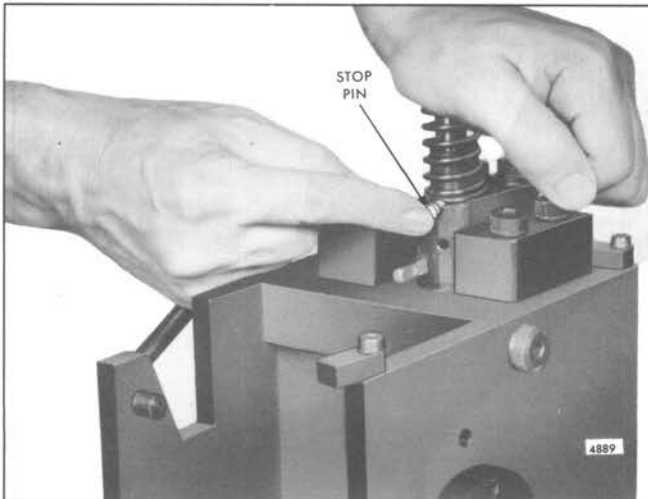

Fig. 33 – Installing Injector Follower Stop Pin
25. Refer to Fig. 33 and place the stop pin on the injector body so that the follower spring rests on the narrow flange of the stop pin.